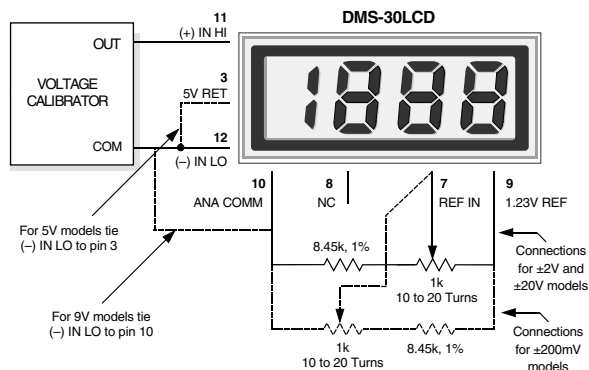

Figure 9. External Gain Adjustment
7. **Gain Adjust:** There is a gain-adjust potentiometer on the back of each meter. It has approximately ±50 counts (±2.5%) of adjustment range. Since these devices essentially have no zero/offset errors, a gain adjustment is effectively an overall accuracy adjustment. Though they may be performed at any point (except zero), accuracy adjustments are most effective when performed with higher level input signals. Refer to Figure 9 for applications requiring greater (±10%) gain adjustments.
- 7. External Gain Adjustment:** Connect REFERENCE OUT (pin 8) to REFERENCE IN (pin 7) for normal, factory calibrated, operation. Use the +1.23V REFERENCE OUT (pin 9) for applications needing external gain adjustment. Figure 9 shows the wiring configuration for each model. Calibration is performed with a precise, near-full-scale, input voltage.